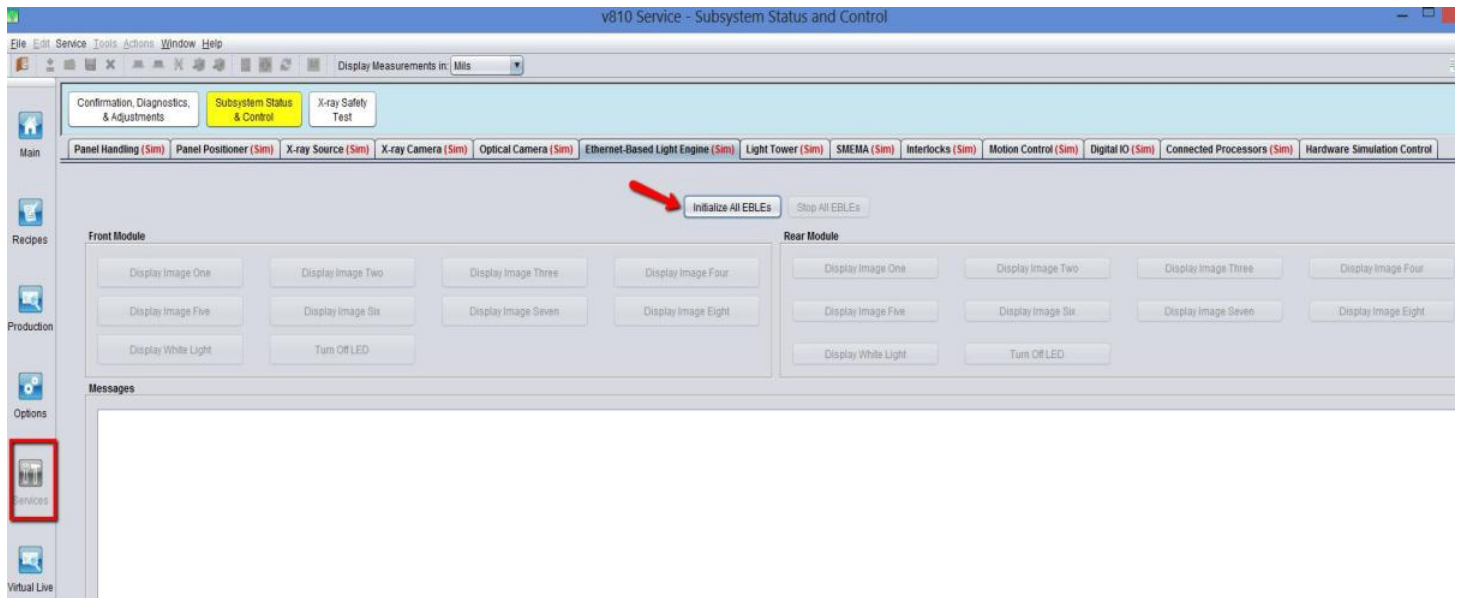

Figure 28 EBLE GUI
10. Click Initialize at Ethernet-Based Light Engine as below Figure 28.